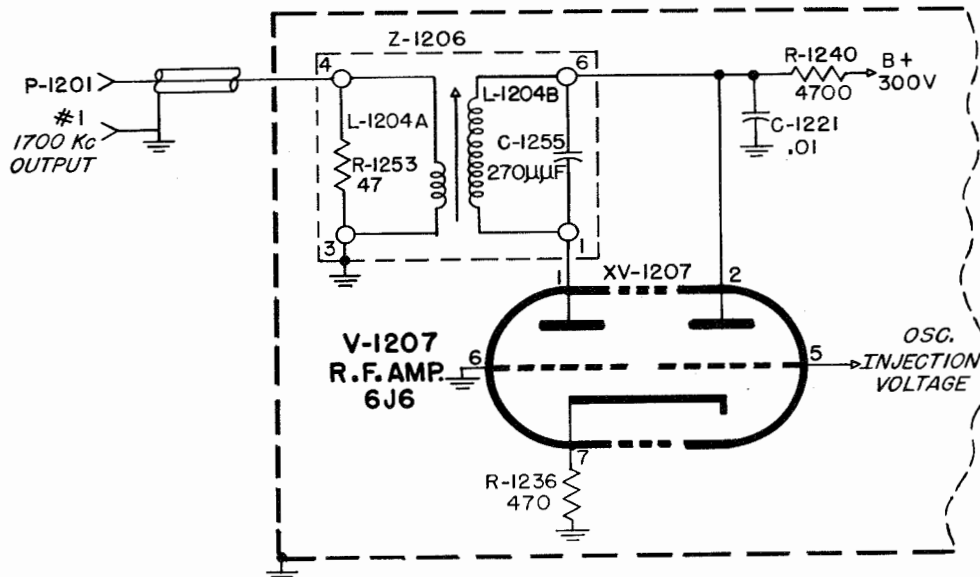

Figure 2-45. R.F. Amplifier V-1207, Simplified Schematic Diagram
(7) R.F. AMPLIFIER V-1207 (CV-127/FRR-24). (See Figure 2-45).—The output of oscillator V-1208